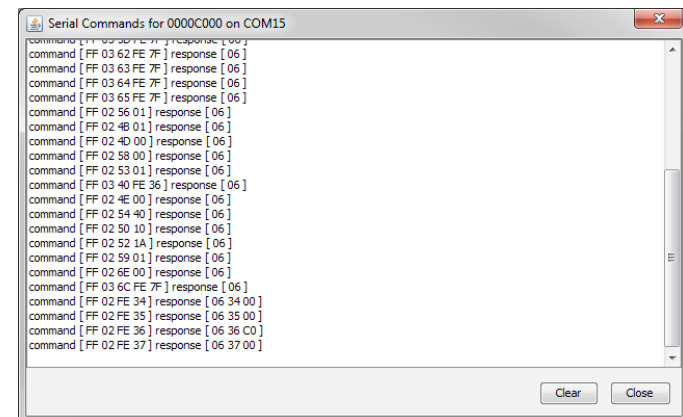

Figure 23: The Master Development System Software Show Commands Window
7. The Show Commands button opens a window that shows the bytes sent to the module and the responses from the module (Figure 23).